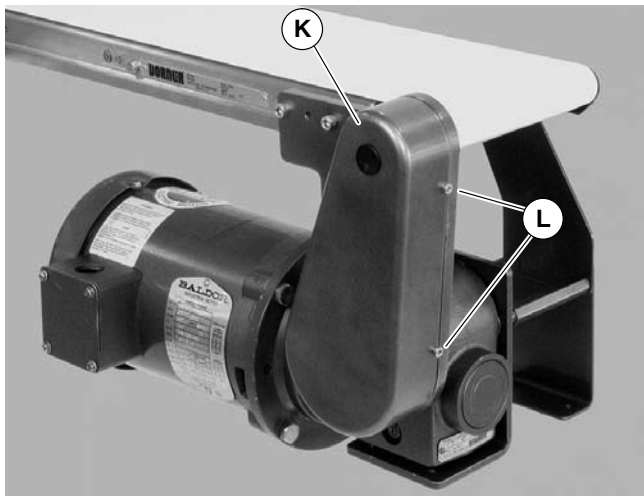

Figure 19
14. Install cover (K of Figure 19) with four screws (L). Tighten to 35 in-lb (4 Nm).
1. Remove four (4) screws (L of Figure 19) and remove cover (K).
4. Install cover (K of Figure 19) with four (4) screws (L). Tighten to 35 in-lb (4 Nm).
6. Install cover (K of Figure 19) with four (4) screws (L). Tighten to 35 in-lb (4 Nm).